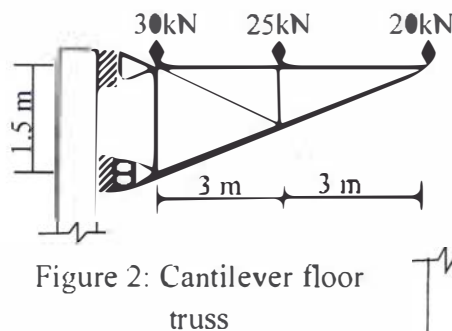

Figure 2: Cantilever floor truss
- a) A cantilever steel truss is carrying floor load as shown in **Figure 2**. Analyze the truss to get maximum vertical deflection using Virtual Work Method [Given: Cross sectional area of all members is 900 mm², Modulus of elasticity of steel is 200,000 N/mm²]. [5 marks]